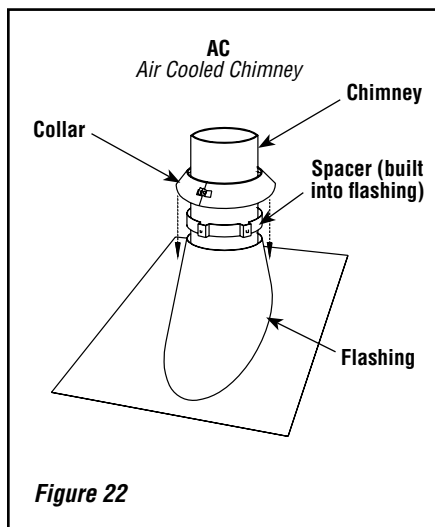

Figure 22
5. Then, put the roof flashing in place and seal the joint between the roof and the flashing with roofing pitch. For sloping roofs, place the flashing under the upper shingles and on top of the lower shingles. Nail the flashing to the roof, using roofing nails (**Figures 22 and 23**).